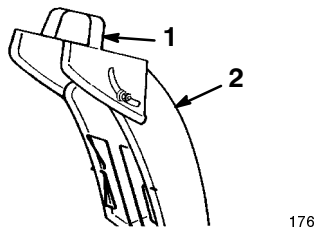

Figure 24
- **Chute Deflector Handle** (Fig. 24)—The deflector handle, located on top of the discharge chute, controls the height of the snow stream.